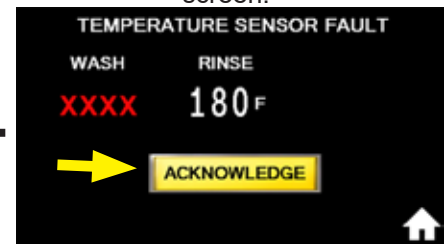

Fig.13b - Press ACKNOWLEDGE.
2. Press the blinking  fault icon and an information screen appears. Press the ACKNOWLEDGE button, (Fig. 13b).